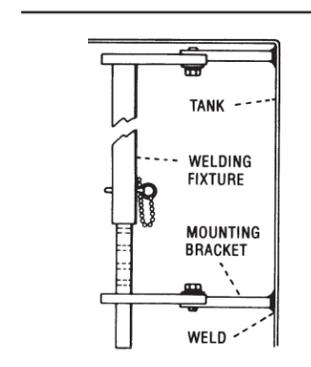

Fig. 10
- Place fixture in pre-marked position for top transmitter, with brackets on mounting surface (Fig. 10). Weld mounting brackets in place on surface.